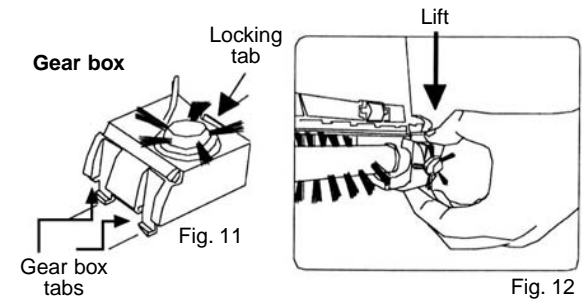

Fig. 12
4. Push in on the locking tab of the gear box and lift gear box to remove. (Fig. 11 & Fig. 12)